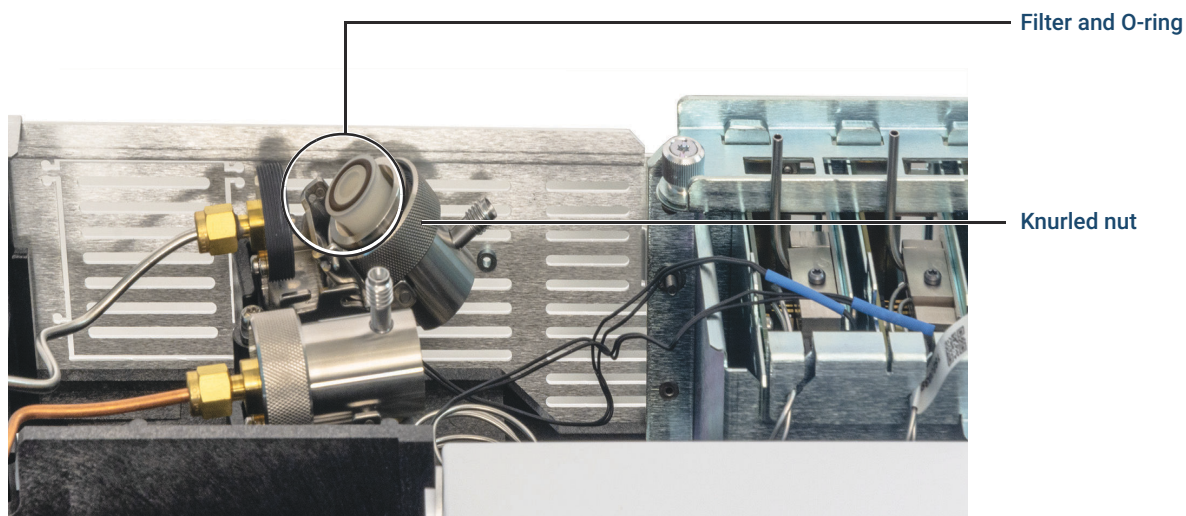

Figure 8. Slide trap assembly to expose the filter
5. Tilt the split vent trap assembly backwards until it stops, exposing the filter. See Figure 8.